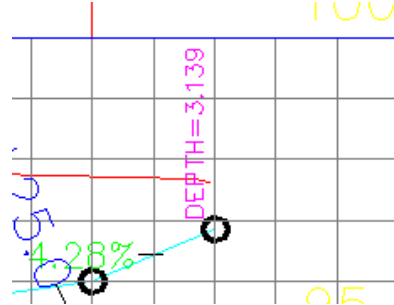

Figure 6-72 Depth label added at the last circle in the profile view
17. Similarly, add a depth label by picking the center point of the last circle and a point on the top axis, as shown in Figure 6-72.